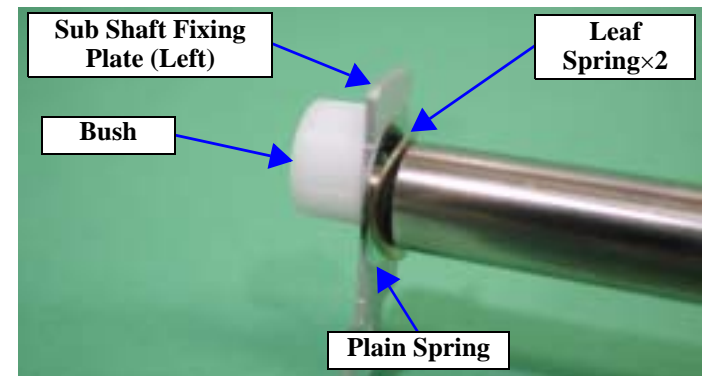

Figure 4-71. Order on Left End of Carriage Guide Shaft B
- Make sure that the left end of the Carriage Guide Shaft B is in order of the Bush, Sub Shaft Fixing Plate (Left), Plain Spring and Leaf Spring. Refer to Figure 4-71, "Order on Left End of Carriage Guide Shaft B".